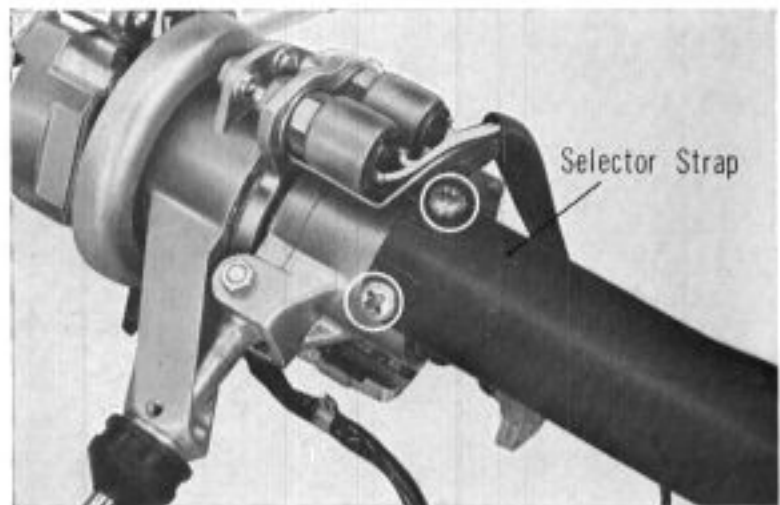

Fig. 7B-243
14. To remove the selector strap, remove the setting screws.(Fig. 7B-243)